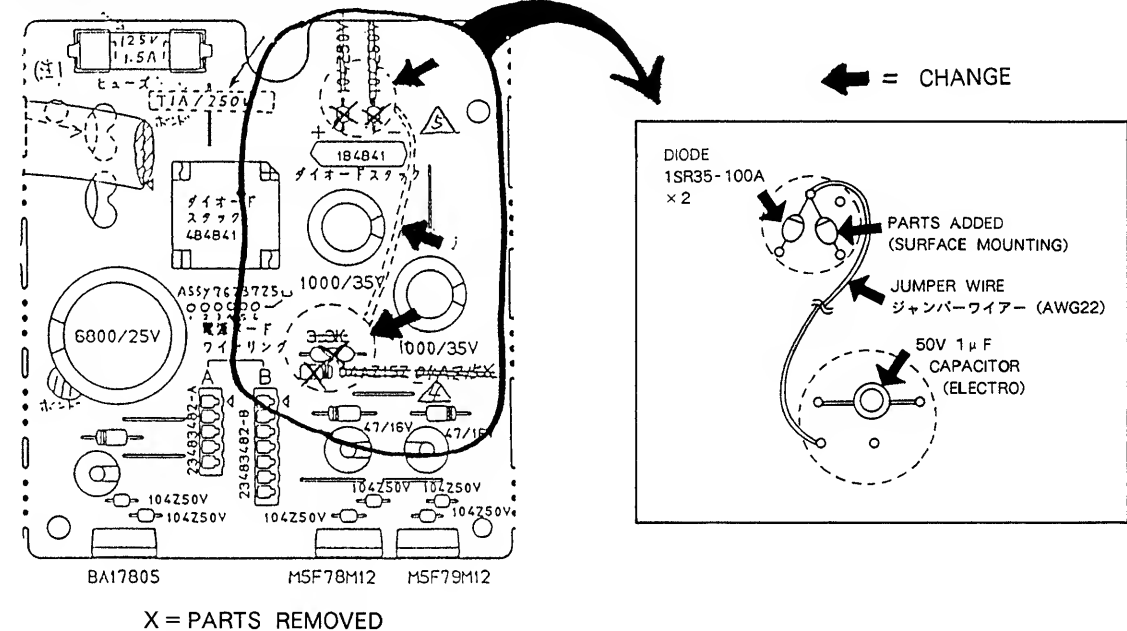
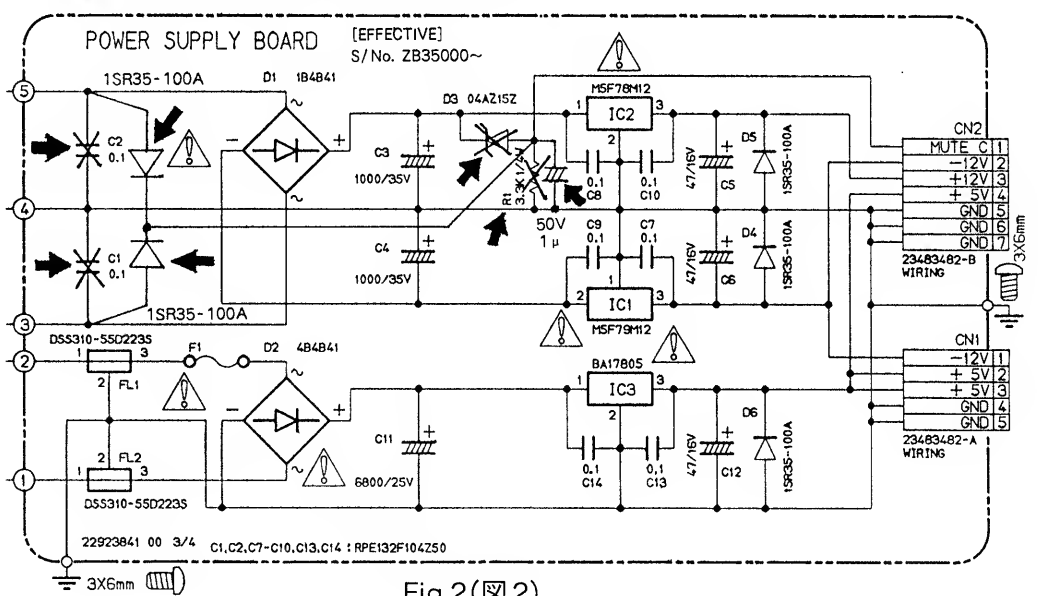

Fig.1 (図1)
Fig.2 (図2)
Muting circuit on power supply board has been as shown in Fig.1 and Fig.2.
電源基板 (POWER SUPPLY BOARD : pcb No.2292384100 2/4) の回路変更を行う。(図1 & 2 参照)
- 1.PARTS REMOVED (See Fig.1 and Fig.2)
- 2.PARTS ADDED (See Fig.1 and Fig.2)